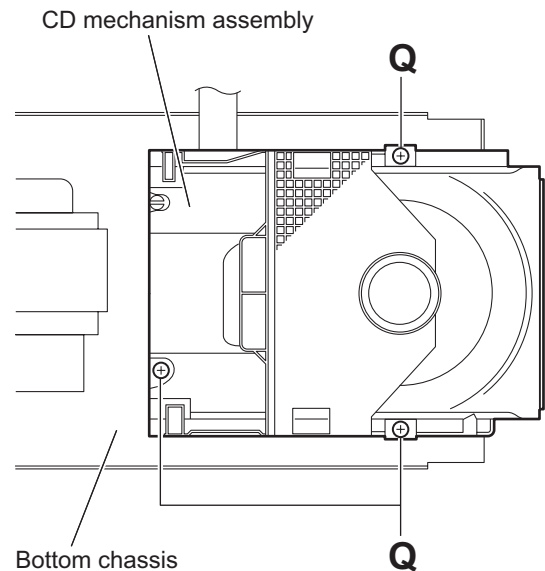

Fig.21
- (2) Take out the shield case with the power amplifier board from the bottom chassis.
- (3) Remove the three screws **Q** attaching the CD mechanism assembly to the bottom chassis. (See Fig.21.)